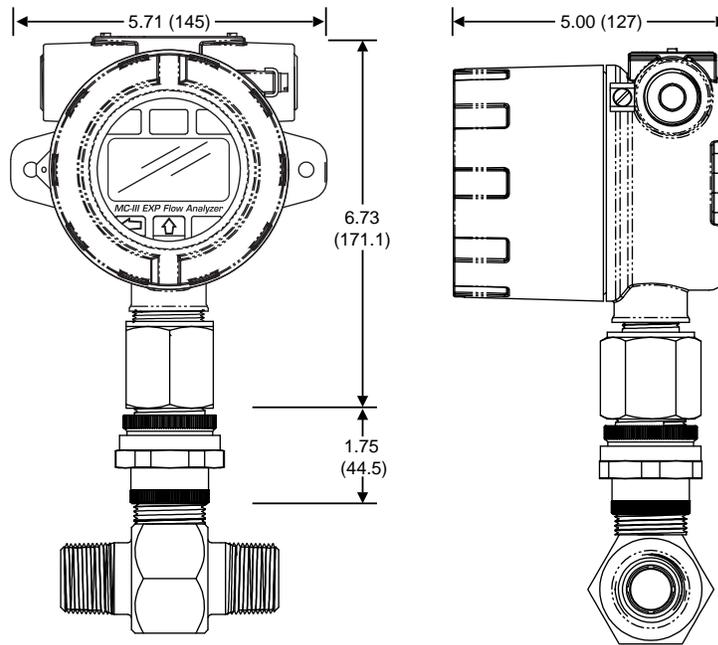
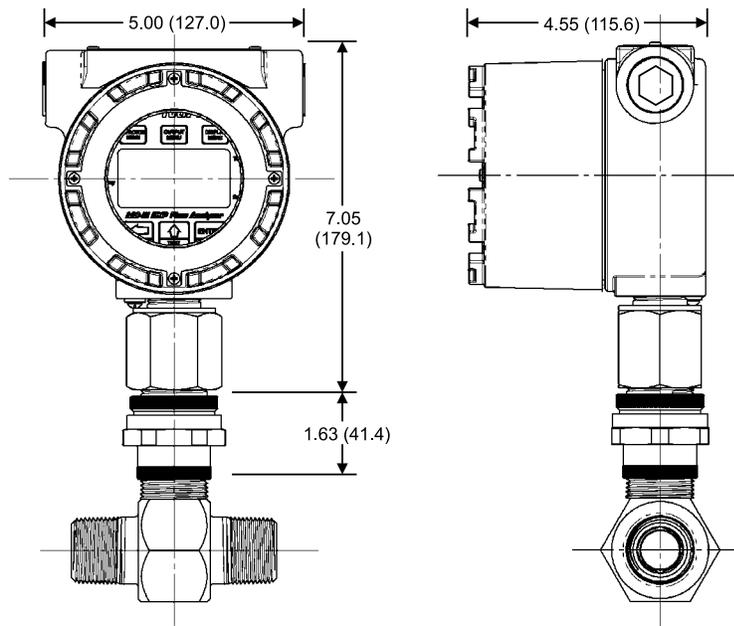
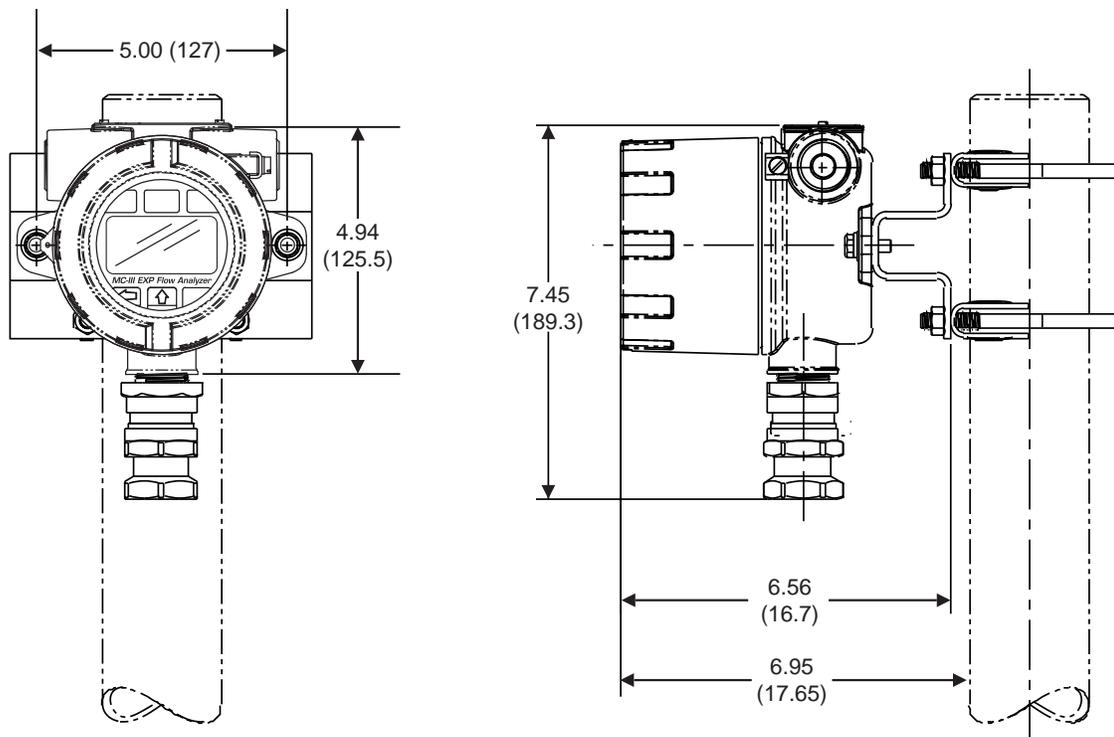

Figure 2.5—Direct mount (standard MC-III EXP enclosure) to NuFlo turbine meter with pipe reducer and union (CSA)
Figure 2.6—Direct mount (alternate MC-III EXP enclosure) to NuFlo turbine meter with pipe reducer and union (CSA)
Figure 2.7—Remote mount on a 2-in. pole using a NuFlo hardware kit (Part No. 9A-30028004)
The CSA-approved MC-III EXP is available in either of two enclosure styles. The standard enclosure shown on the cover of this manual and in Figure 2.5, page 18, features integral mounting holes on either side of the enclosure, allowing it to be mounted to a flat bulkhead.
The alternate enclosure (Figure 2.6, page 18) does not have the bulkhead mounting holes on the sides. Another distinguishing feature is the bright red ring that frames the display window. The alternate enclosure is slightly taller than the standard enclosure.
The MC-III EXP may be mounted directly to a flowmeter, or mounted remotely on a pole and connected to a flowmeter with explosionproof signal cable. The type of meter mount required varies with the meter in use. See Figure 2.5 through Figure 2.7 for installation dimensions.
- Mount the device to a NuFlo turbine meter or a Barton 7000 Series turbine meter. A CSA-approved pipe reducer and union connector is required (Figure 2.5, page 18). Figure 2.6, page 18, shows the same installation with the alternate MC-III enclosure.
- Remote-mount the device to a 2-in. pole using a NuFlo hardware kit (Figure 2.7, page 19). Pole mounting may be preferred where limited space or pipe vibration prohibits direct-mount installation. For best results, install the device as near as possible to the meter to minimize the length of explosionproof signal cable that must be used for communications. Stranded, shielded cable is recommended.